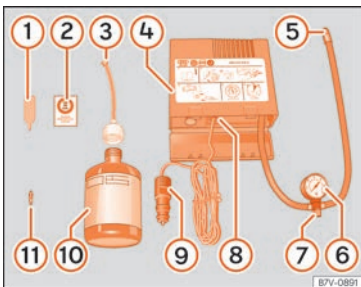

Fig. 58 Standard display: contents of the anti-puncture kit.
- Unscrew the tyre valve cap and insert. Use the »» Fig. 58 ① tool to remove the insert. Place it on a clean surface.
- Shake the tyre sealant bottle vigorously »» Fig. 58 ⑩.
- Screw the inflator tube »» Fig. 58 ③ into the sealant bottle. The bottle's seal will break automatically.
- Remove the lid from the filling tube »» Fig. 58 ③ and screw the open end of the tube into the tyre valve.
- Place the insert back into the tyre valve using the tool »» Fig. 58 ①.
- Screw the compressor tyre inflator tube »» Fig. 58 ⑤ into the tyre valve.
- Check that the air bleed screw is closed »» Fig. 58 ⑦.
- Insert the connector »» Fig. 58 ⑨ into the vehicle's 12-volt socket »»  page 138.
- Turn the air compressor on with the ON/OFF switch »» Fig. 58 ⑧.
- Attach the sticker »» Fig. 58 ② to the instrument cluster, within the driver's visual field.